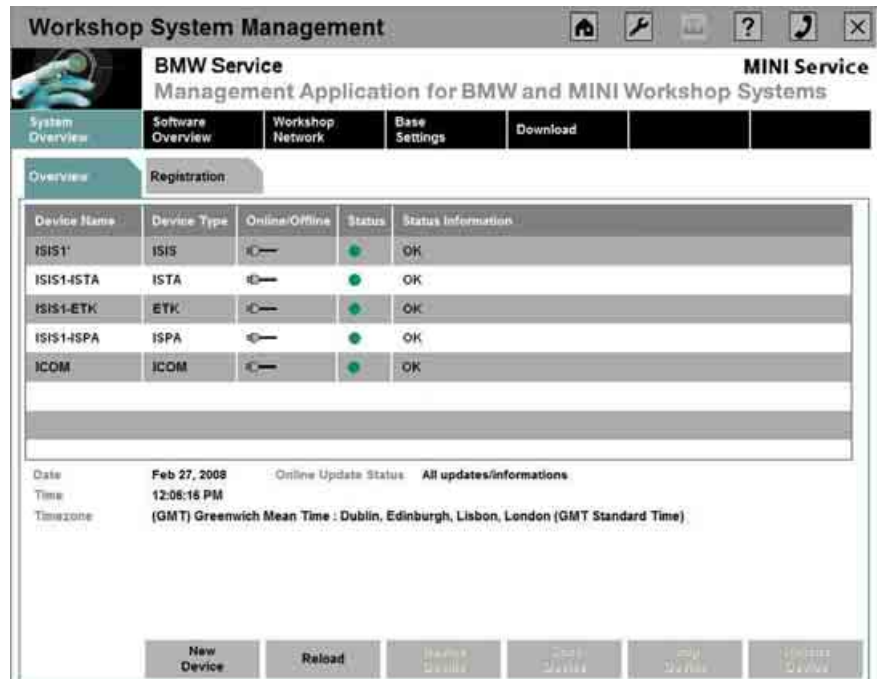

Fig. 72: ICOM in the WSM System Overview after starting the ICOM
- The ICOM is listed as a device in the System Overview (see Fig. 72).